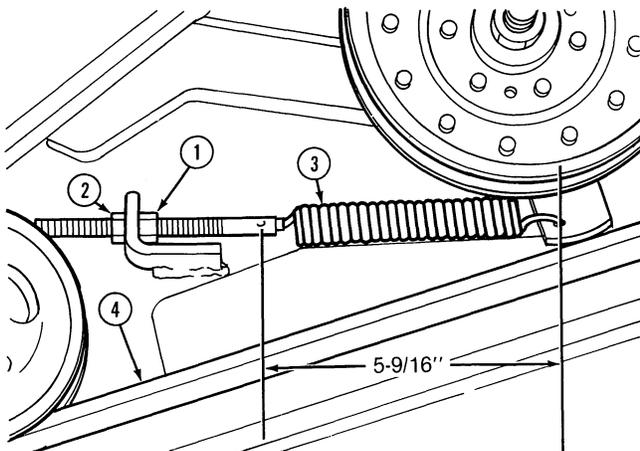

Figure 17
5. Loosen the locknut (1), Figure 17, on the threaded spring adjustment rod (3), and adjust the spring to 5-9/16 inches (142 mm) overall length between the hook ends. Tighten the locknut.
1. Loosen and release the belt spring tension rod (3), Figure 17.